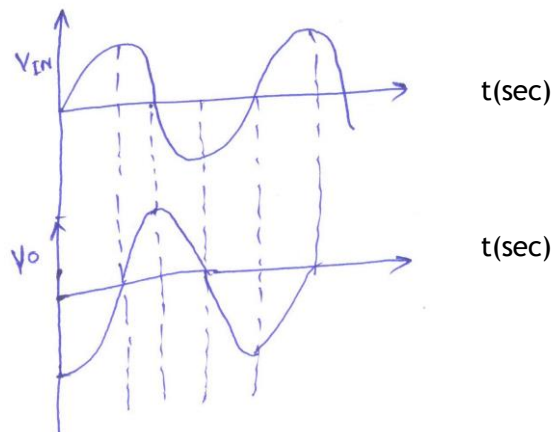

Fig. 3.21
3.6.4.14 If sine wave is applied at the input of differentiator output becomes cosine wave (Fig. 3.21)